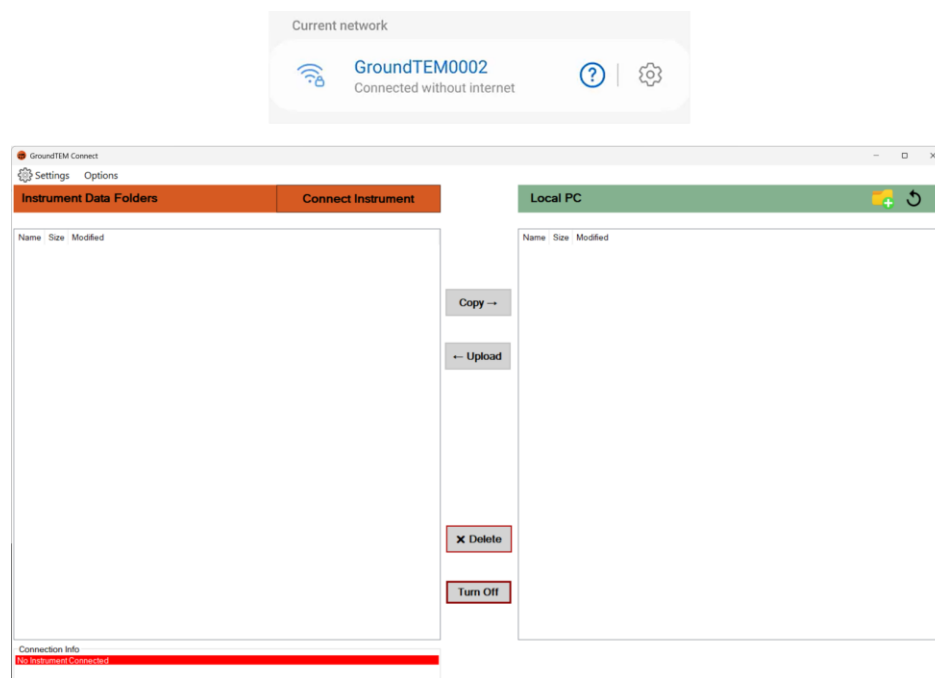

Figure 25. Example of GroundTEM unit's Wi-Fi network name (top) and the main window of GroundTEM Connect prior to connecting to an instrument (bottom).
- From the *Local PC* connect to GroundTEM Wi-Fi network. (see Figure 25, top)
Next step is to use GroundTEM Connect to download the data. The main program window is shown in Figure 25, bottom.